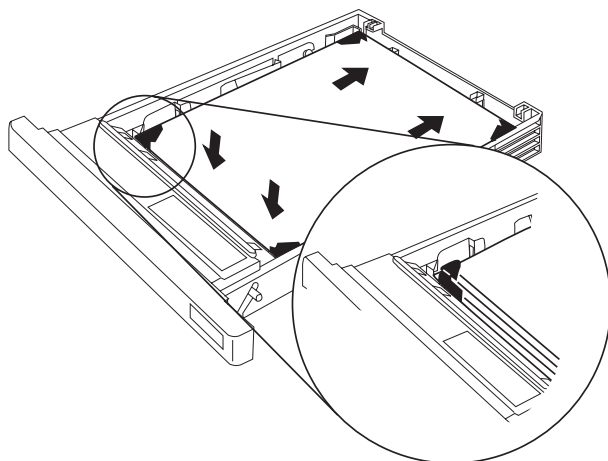

Fig. 4.7 *Push Paper Under White Plastic Tabs*
2. Make sure the paper is under the white plastic tabs at the rear of the cassette (fig. 4.7). Pressing down on all four corners of the paper stack ensures that the paper is loaded correctly.